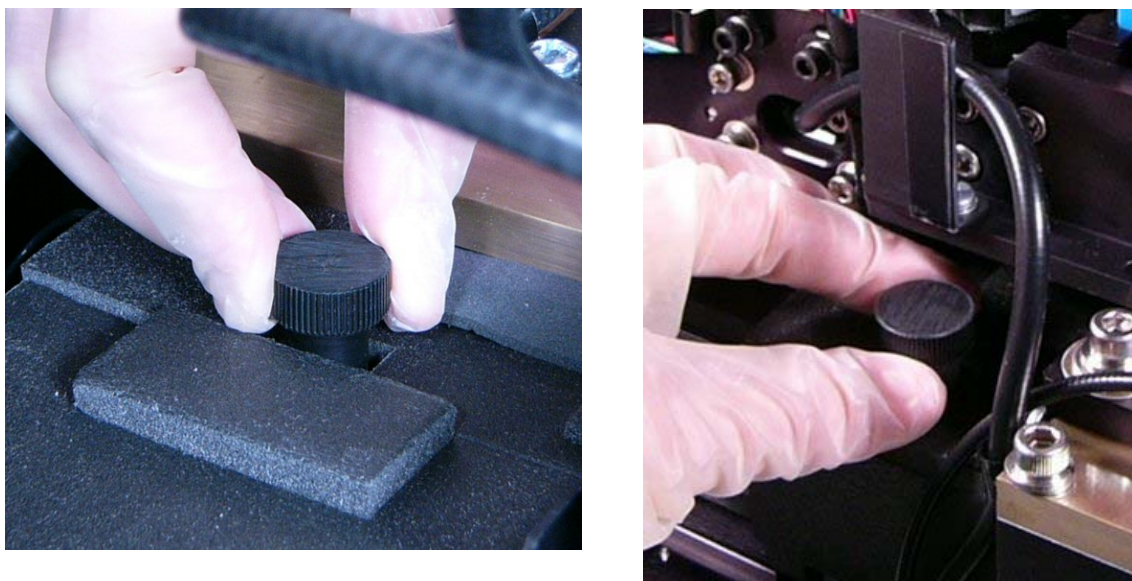

Figure 49: Removing the knobs that secure the incubator housing
- Secure the incubator housing with the three knobs (**Figure 49**).